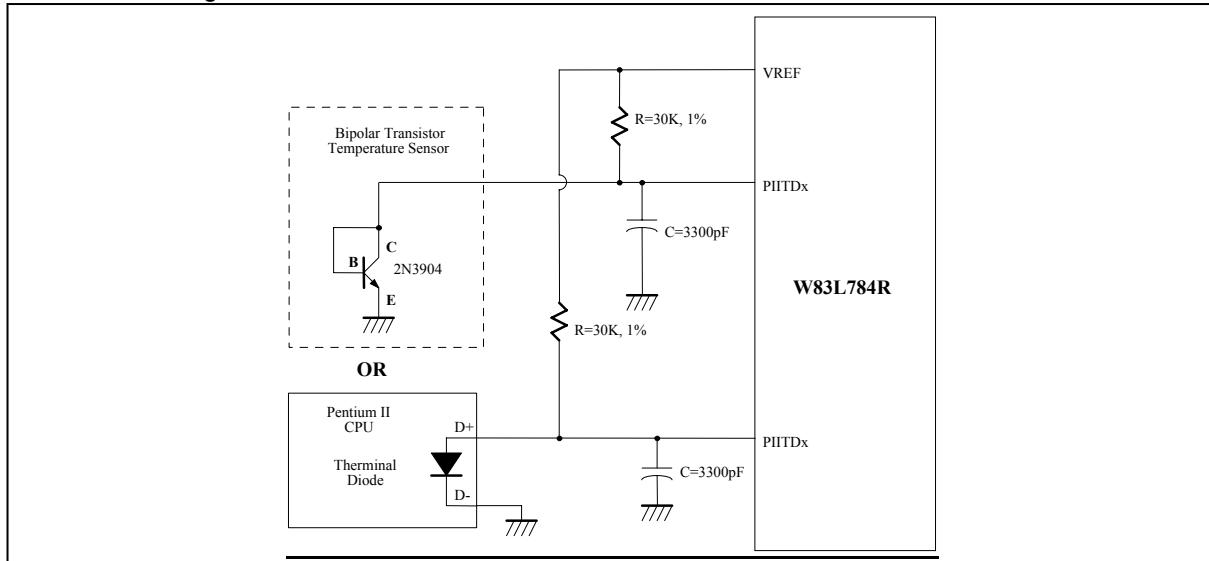

Figure 12
The W83L784R/G can alternate the thermistor to Pentium II™ (Deschutes) thermal diode interface or transistor 2N3904 and the circuit connection is shown as Figure 12. The pin of Pentium II™ D- is connected to power supply ground (GND) and the pin D+ is connected to pin PIITDx in the W83L784R/G. The resistor  $R=30K$  ohms should be connected to VREF to supply the diode bias current and the bypass capacitor  $C=3300pF$  should be added to filter the high frequency noise. The transistor 2N3904 should be connected to a form with a diode, that is, the Base (B) and Collector (C) in the 2N3904 should be tied together to act as a thermal diode.